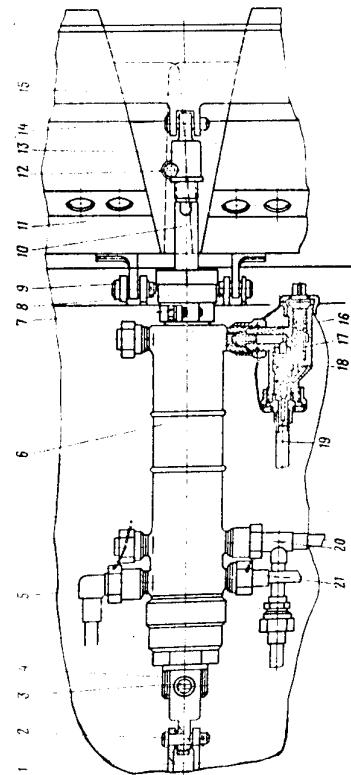

Fig. 31. Jet Nozzle
opening as required, with the help of bush 8 (See Fig.31) of the cylinder, located at the rod side.
For adjustment of the diameter of the jet nozzle opening use bush 4 (See Fig.31) of the cylinder, located at the lug securing the cylinder to the jet nozzle body (front bush).
- close the compressor air blow-off ports by manipulating wrench 24CH-12. Shift the engine control lever from the "NORMAL" (НОРМАЛ) stop to the "MAXIMUM" (МАКСИМУМ) stop. The shutters of the jet nozzle should move from the position corresponding to the normal rating to the position corresponding to the maximum rating within 2.5 to 5 sec. In case the time period is less than or exceeds the above values, replace the jets in pipe-lines 20 (See Fig.31) serving to deliver oil into the cylinder cavity, under the auxiliary piston.
To accelerate shutters operation, install jets with larger diameter orifices; to decelerate shutters operation; fit in jets with smaller diameter orifices (See Table 4); (b) shift the engine control lever from the "MAXIMUM" (МАКСИМУМ) stop to the "AFTERBURNING" (ФОРСАЖ) stop and close the plug of fuel pressure warning mechanism ДСД-2 for 1 to 2 sec., using device 834II-7. The shutters of the jet nozzle should shift from the position, corresponding to the maximum rating, to the position corresponding to the augmented rating. Operation of the shutters should take place within 1.2 to 2.5 sec. If the time period is less than or exceeds the above values, adjustment should be performed by replacing jets 16 (See Fig.31) located in the return valve-to-cylinder joints. To accelerate shutters operation, install jets with larger diameter orifices, and vice versa (See Table 5).